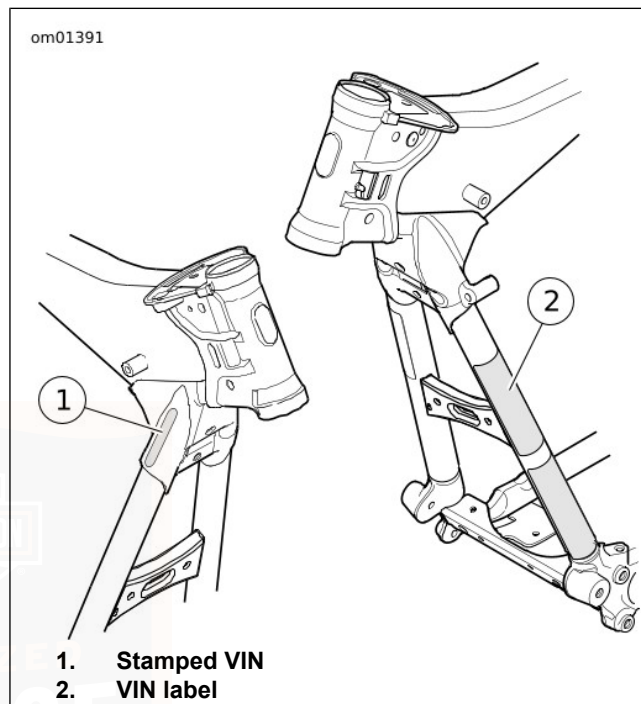

Figure 2. VIN Locations
See Figure 2. The full 17-digit VIN (1) is stamped on the right side of the frame near the steering head. In some destinations, a printed VIN label (2) is also attached to the front downtube.